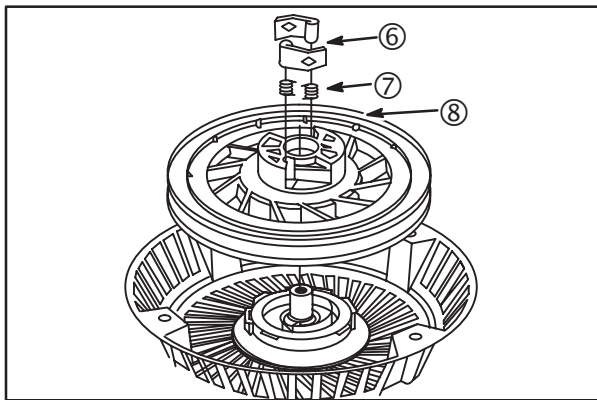

Fig. 65
3. Lift out dogs (6) and dog springs (7).
4. Rotate pulley (8) until it disengages spring.
5. Carefully lift out pulley, Fig. 65.